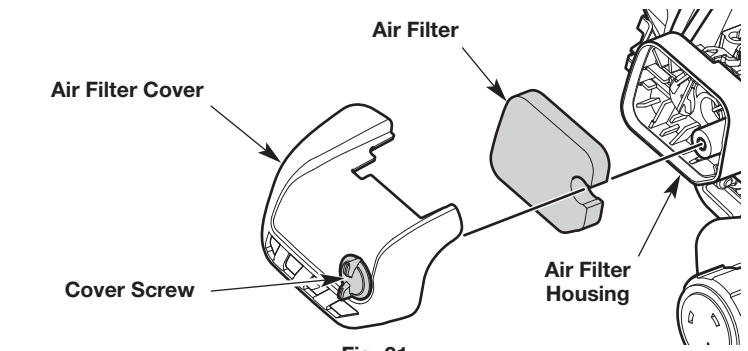

Fig. 31
1. Open the air filter cover by unscrewing the cover screw (Fig. 31).
2. Remove the air filter from the air filter housing (Fig. 31).
6. Reinstall the air filter in the air filter housing (Fig. 31).